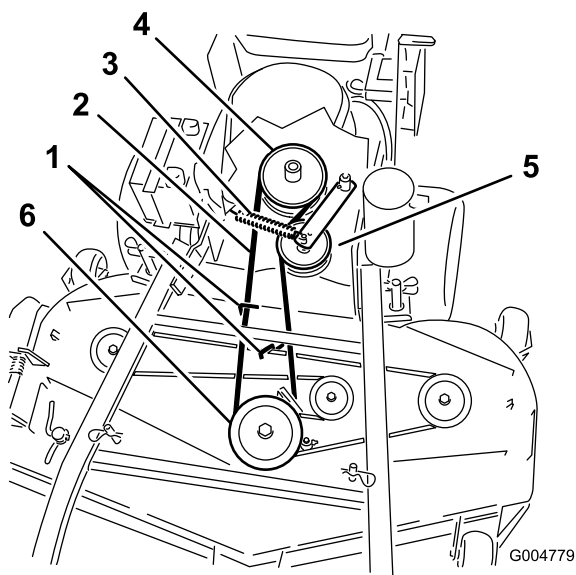
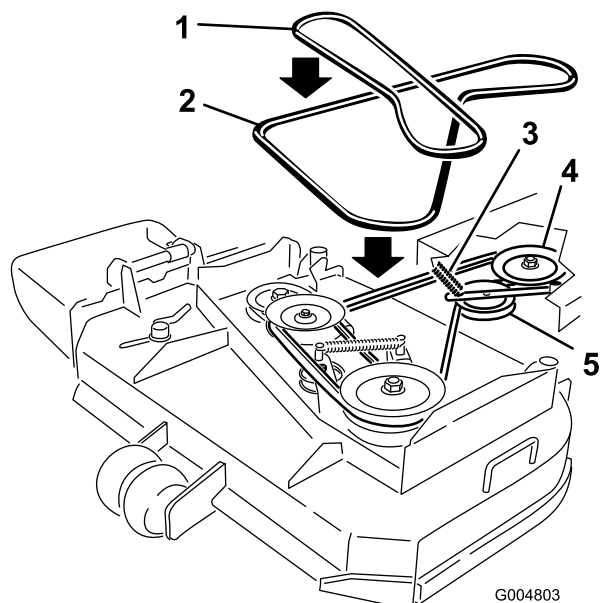

Figure 64
Figure 65
6. Roll the belt off of the center pulley on the mower deck (Figure 64). Refer to Figure 65 to roll the belt off left pulley for a 36 inch mower deck. Use caution when removing the belt as tension will increase because of the spring loaded idler pulley.
7. Remove the belt from the engine pulley and the spring loaded idler pulley (Figure 64). Refer to Figure 65 to remove the belt from the 36 inch mower deck pulleys.
8. Install the new belt onto the engine pulley and spring loaded idler pulley (Figure 64).
9. Roll the belt onto the center pulley on the mower deck (Figure 64). Use caution when install the belt as tension will increase because of the spring loaded idler pulley. Refer to Figure 65 to roll the new belt onto the left pulley for a 36 inch mower deck.
11. Adjust the belt guide an 1/8 inch (3 mm) from the belt for 40, 48 and 52 inch mower decks (Figure 64).